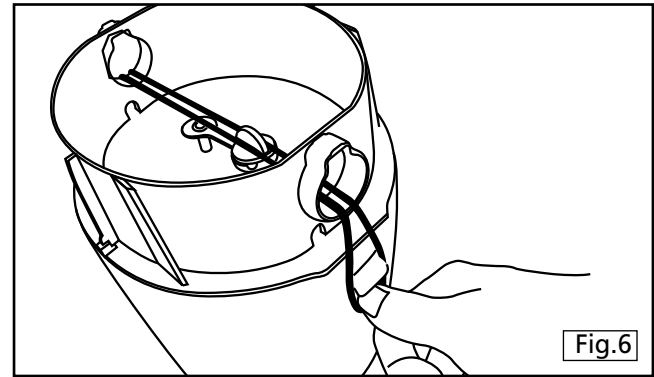

Fig.6
6. Remove the Inner Nose Cone. To do this, first feed the silicone ring (provided with this manual) through the latch holes in the Inner Nose Cone and hook over the hooks in the Battery Housing (see figure 6). Then screw the Pump Nozzle onto the Vent Hole and pump air into the Battery Chamber until the Inner Nose Cone pops off and then remove the silicone ring.